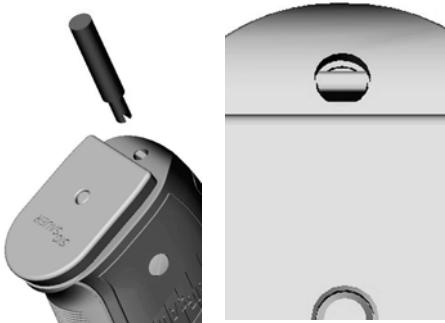

Fig. 4, decocked (left), unlocked (right)
#### Unlocking: (see Fig. 4, left/right)
2. Remove key leaving end of lock flush or even with bottom of grip (see Fig. 4, right).